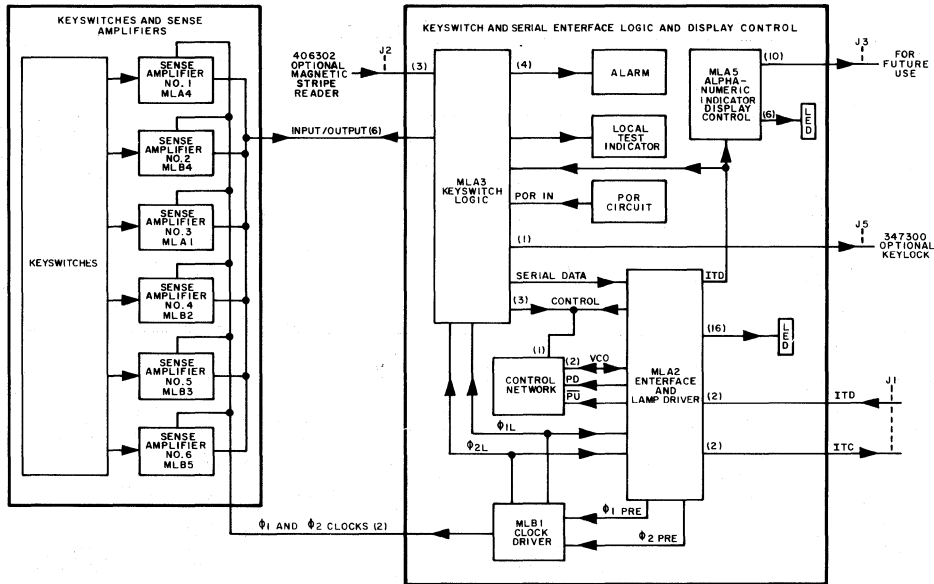

Fig. 7—Keyboard Logic Diagram
4.02 Internal information transfer keyswitch to keyboard output is shown in Fig. 7.